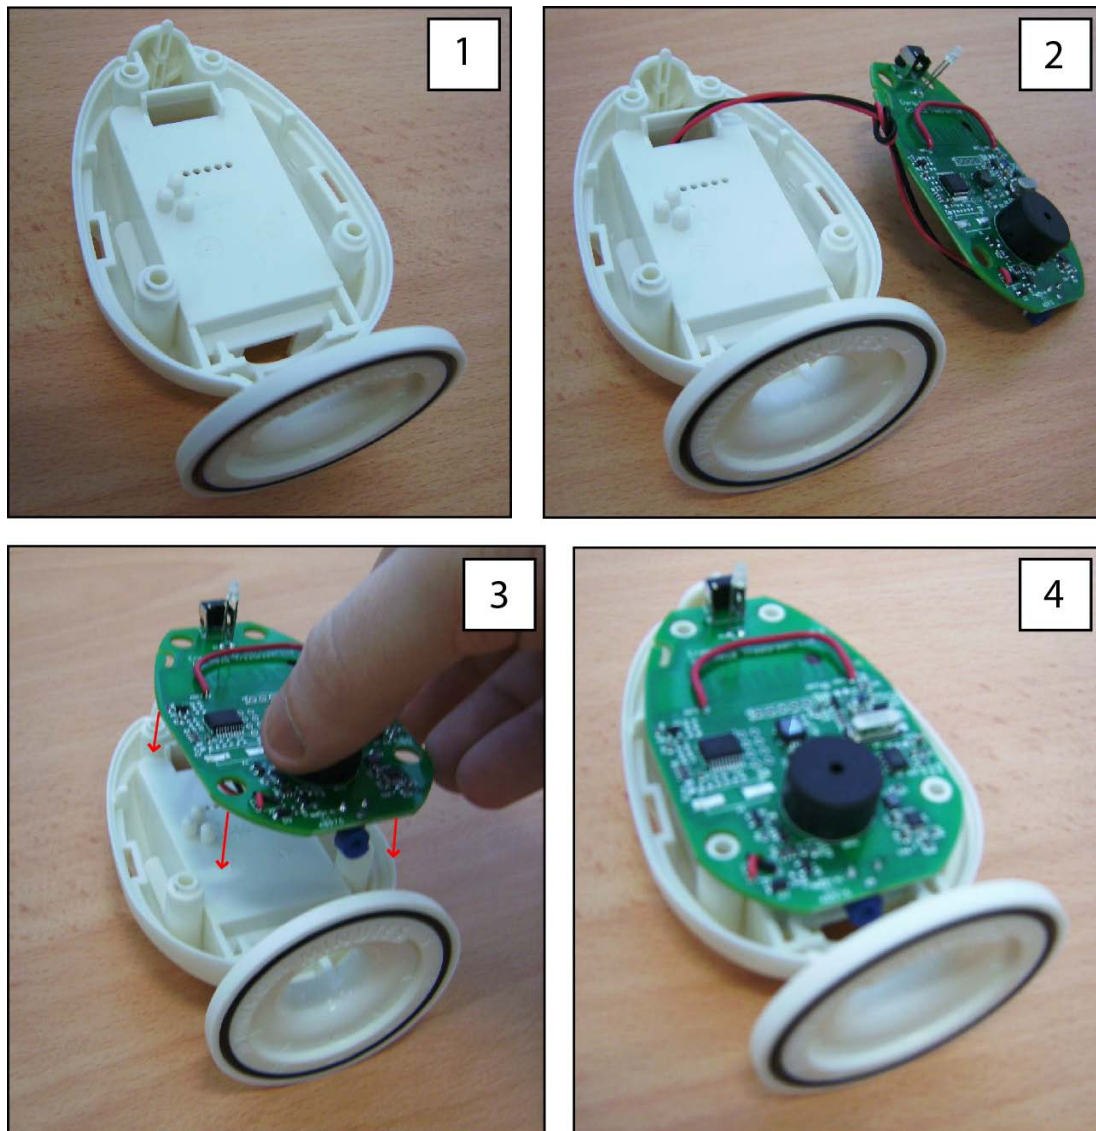

Figure 3a - Insert PCB onto Main Base
Figure 3a shows a step by step guide to inserting the PCB into the Main Base. First thread the battery connector through the gap at the top of the Main Base as show in 2. Next, place the PCB down onto the Main Base (3), aligning the four screw holes on the PCB with the screw bosses on the Main Base (4).